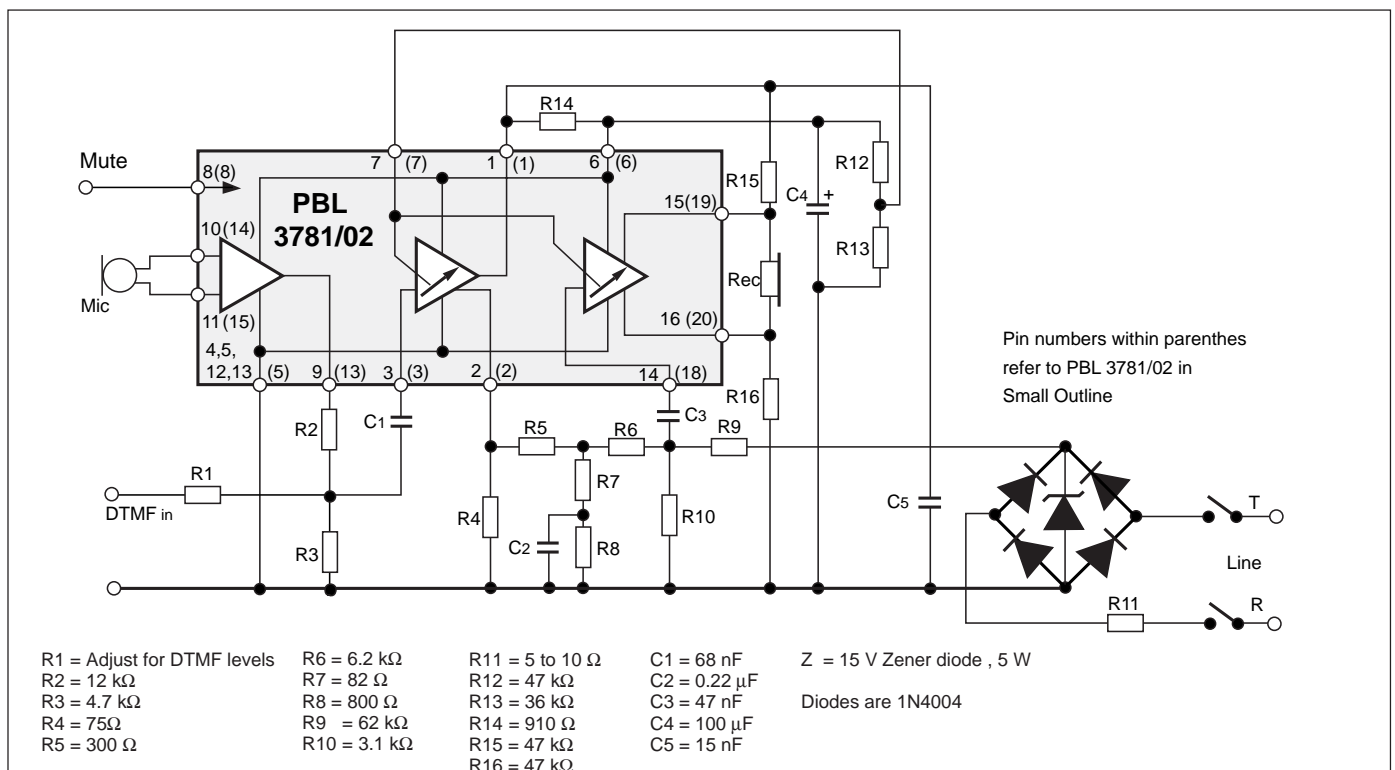

Figure 9. Basic application for 48V, 2 X 400 ohms battery feeding system and dynamic microphone and receiver.
telephone administrations all over the world. Adaptation to different battery feeding systems and transducers is made by selecting the values of a few external components. Figure 9 shows the PBL 3781/02 and associated components in a basic telephone speech network. To complete a design of an electronic telephone, the circuit needs to be supplemented by a tone ringer and a DTMF or pulse dialler circuit.
2.  $R_7$ ,  $R_8$  and  $C_2$  should simulate the amplitude and phase response of the line impedance seen at the line terminals. The impedance level of the balancing network should be about one tenth of the line impedance. The values given in figure 9 are a good starting point for most cases.
Since the line current passes through the speech network during pulse dialling, the pulses will be monitored in the receiver. However, by adding two balancing resistors of 47 k $\Omega$  at the receiver output terminals, this effect and the confidence tone is minimized ( $R_{15}$  and  $R_{16}$  in fig. 9).